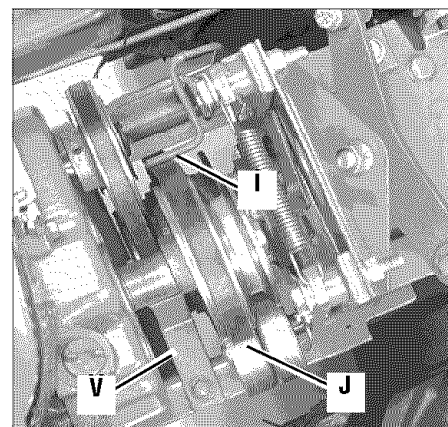
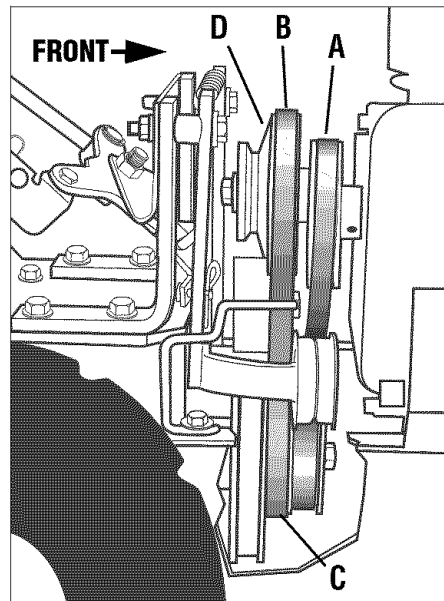
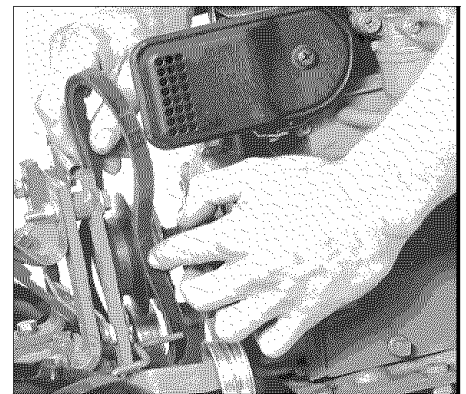
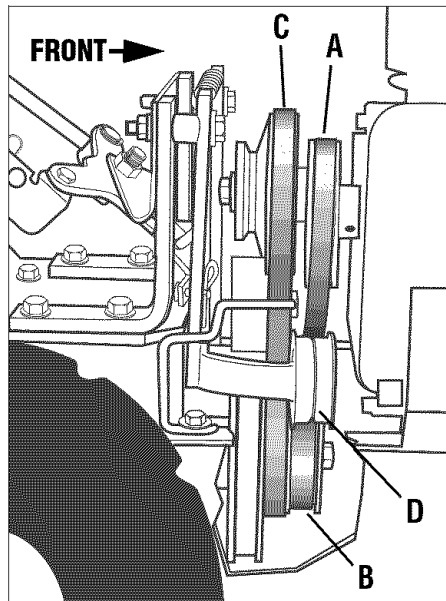

Figure 5-12: Top view of belts and pulleys.
Figure 5-16: Belt drive system.
Figure 5-17: Install forward drive belt over rear of engine forward pulley and bring lower half of belt down and in front of transmission pulley.
Figure 5-18: Removing and installing reverse belt.
8. Replace the forward drive belt in the High speed groove (groove closest to engine) or the Low speed groove (rearmost) groove of the engine drive pulley and in the matching groove of the transmission pulley. Be sure the belt is to the inside of the wire formed belt guide (I, Figure 5-12) and to the inside of the forward drive idler pulley (J).
3. Move the forward drive belt (B, Figure 5-16) completely off the engine forward drive pulley (D).
4. Slip the forward drive belt completely off the transmission drive pulley (C, Figure 5-16) by moving it to the front of the pulley.
2. Slip the forward drive belt down between the rear of the engine forward drive pulley (D, Figure 5-16) and feed the bottom half in between the engine and transmission pulleys (see Figure 5-17). Be sure that the belt is to the inside of the forward idler pulley and forward belt guide (see J and I, Figure 5-12).
and Low) and one reverse speed. The forward engine pulley (D, Figure 5-16) has two grooves for the two forward speeds. The reverse engine pulley (A, Figure 5-16) has one groove for the one reverse speed. The transmission pulley (C, Figure 5-16) has three grooves. The groove closest to the engine is for the reverse belt. The middle groove is for the High speed forward
3. Slip the forward drive belt down and over the front of the transmission pulley (C, Figure 5-16). NOTE: For additional working room, loosen the reverse belt guide (V, Figure 5-12) and twist it out of the way.
4. Put the lower half of the belt into the High speed groove (middle groove) or the Low speed groove (rearmost groove) of the transmission pulley (C, Figure 5-16).
5. Put the upper half of the belt in the High speed groove (groove closest to engine) or the Low speed groove (rearmost groove) of the engine forward drive pulley (D, Figure 5-16).
IMPORTANT: Make sure that the forward drive belt is to the inside of the wire belt guide (I, Figure 5-12) and the forward idler pulley (J).
3. Slip the reverse belt off the engine reverse pulley (A, Figure 5-18). If necessary, work the belt off the pulley with your left hand while pulling the engine recoil starter rope with your right hand.
4. Push the upper half of the reverse belt downward to create slack in the belt. Then reach underneath the transmission and slip the belt off the front of the transmission pulley (B, Figure 5-18).
5. Pull the belt up and past the engine reverse pulley (A, Figure 5-18).
1. Slip the reverse belt down between the engine reverse pulley (A, Figure 5-18) and the engine forward drive pulley (C).
2. Loop the bottom half of the belt over the front of the transmission pulley (B, Figure 5-18) and seat the belt in the front groove of the pulley.
3. Place the belt to the inside of the reverse idler pulley (D, Figure 5-18) and the reverse belt guide (V, Figure 5-12). Then slip the upper end into the groove of the engine reverse pulley (A, Figure 5-18).
4. If the reverse belt guide (V, Figure 5-12) was loosened previously, center the belt guide on the belt and tighten the mounting screw securely.